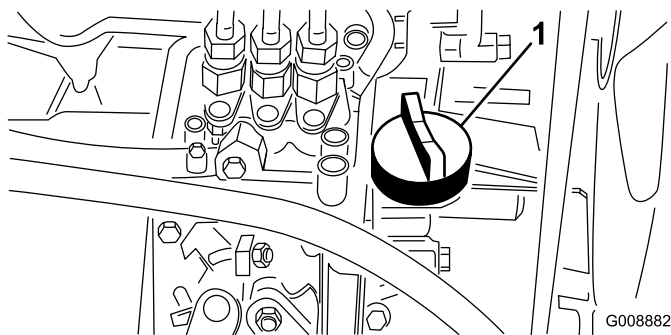

Figure 36
4. If the oil level is low, remove the oil fill cap (Figure 36) and gradually add small quantities of oil, checking the